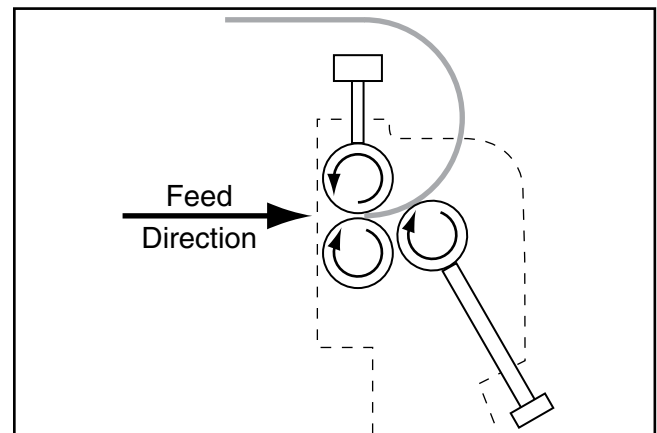

Figure 22. Finishing first pass.
5. Turn hand crank to feed material through slip roll. Continue turning until workpiece is completely through top and bottom rollers, as illustrated in **Figure 22**.